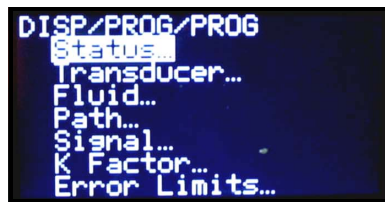

Figure 36: The PROG Menu
3. Use the [▲] and [▼] keys to scroll to the desired channel and press [ENT]. The screen appears similar to Figure 36 below.